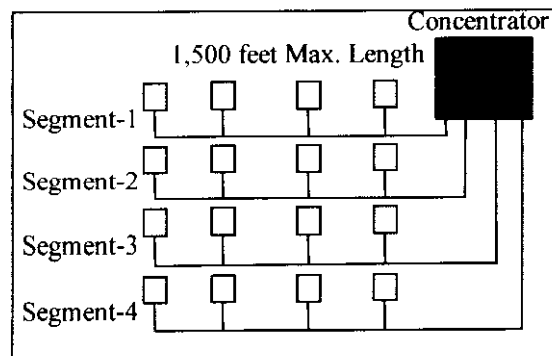

Figure 2, Typical Busline Loading
- Refer to Figure 2 for typical busline loading and Table 1 for total length per segment restrictions of PROX-100C detectors.